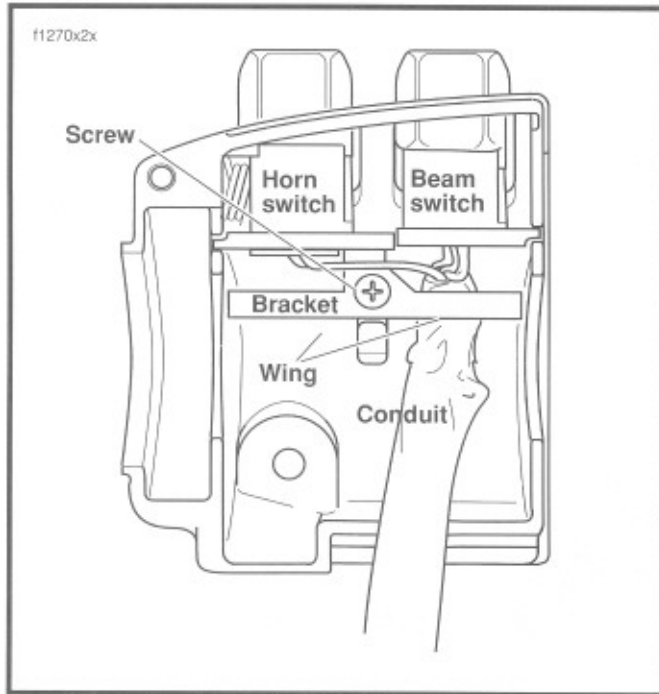
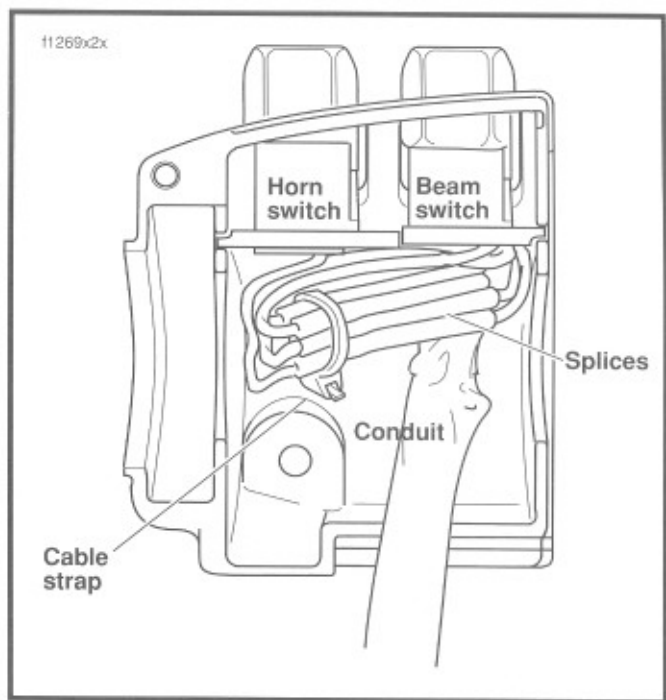

Figure 7-81. Upper Left Handlebar Switch Housing (Without Splices)
Figure 7-82. Upper Left Handlebar Switch Housing (With Splices)
1. See Figure 7-81. From inside the switch housing, remove the Phillips screw and lockwasher to release the bracket. Remove the bracket and switch assembly from the housing.
6. Loop switch wires so that spliced lengths are positioned as shown in Figure 7-82. Route wires downstream of splices beneath wing on high/low beam switch side of bracket as seen in Figure 7-81.
9. Install Phillips screw (with lockwasher) to secure bracket inside housing. Verify that wing on high/low beam switch side of bracket captures edge of conduit as shown in Figure 7-81.